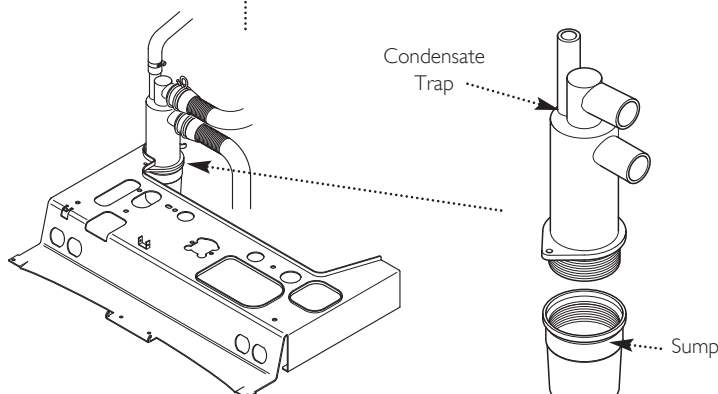

Fig. 64
5. Unscrew the sump from the bottom of the condensate trap assembly (Fig. 64) and remove any deposits from the sump and trap. Clean as necessary and replace the sump.